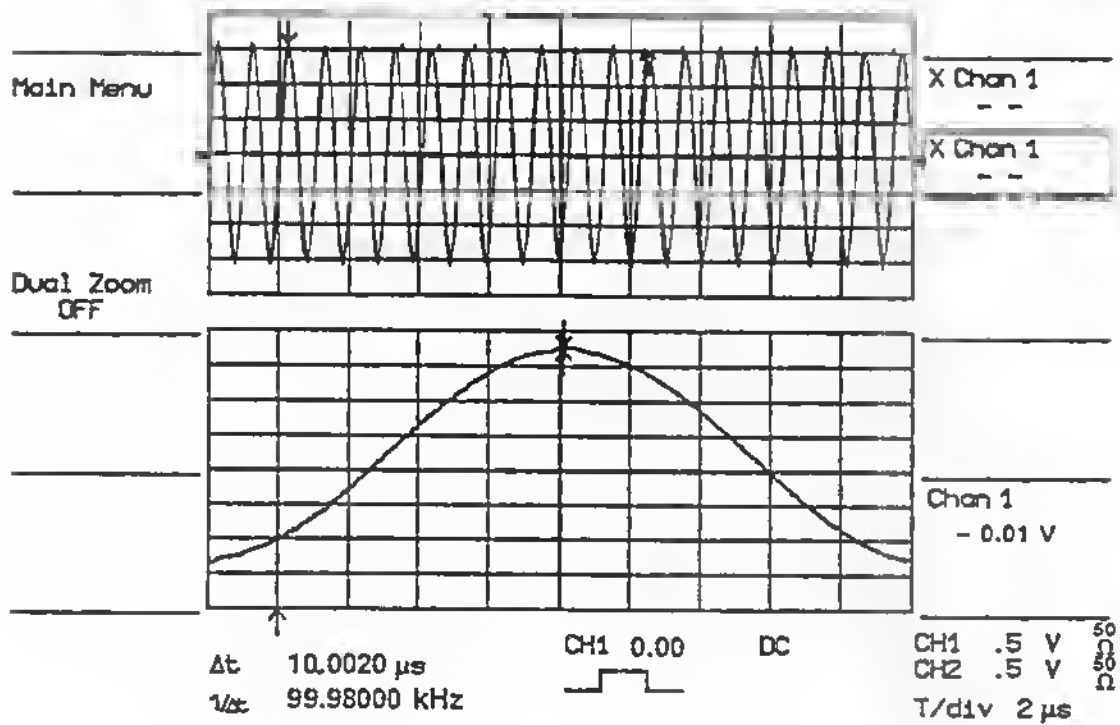

Figure 21: Aligned cursors
- Put the DIFFERENCE cursor on top of the 13th period (check on upper grid) and adjust alignment of the two cursors (check on lower grid), see Figure 21.